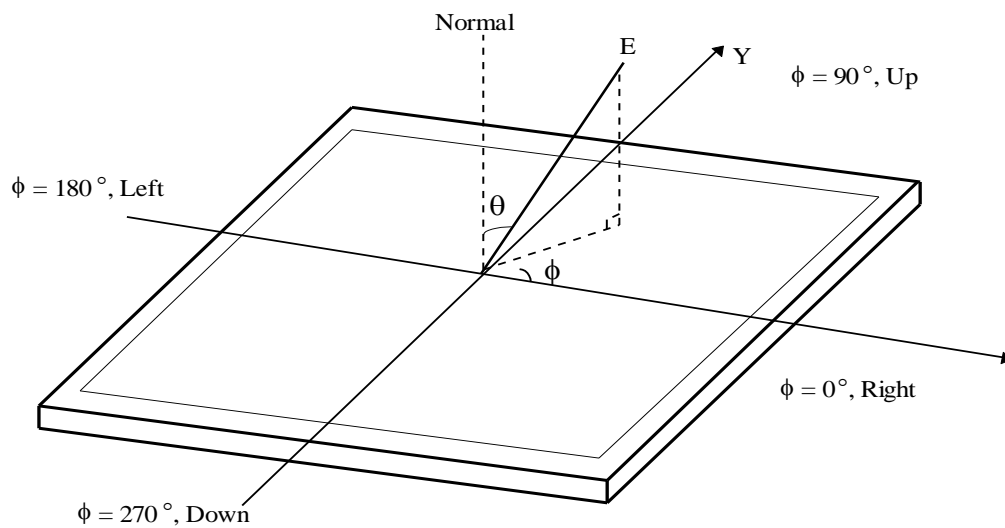

FIG. 11 Viewing Angle
6. Viewing angle is the angle at which the contrast ratio is greater than 10. The angles are determined for the horizontal or x axis and the vertical or y axis with respect to the z axis which is normal to the LCD module surface. For more information, see the FIG. 11.